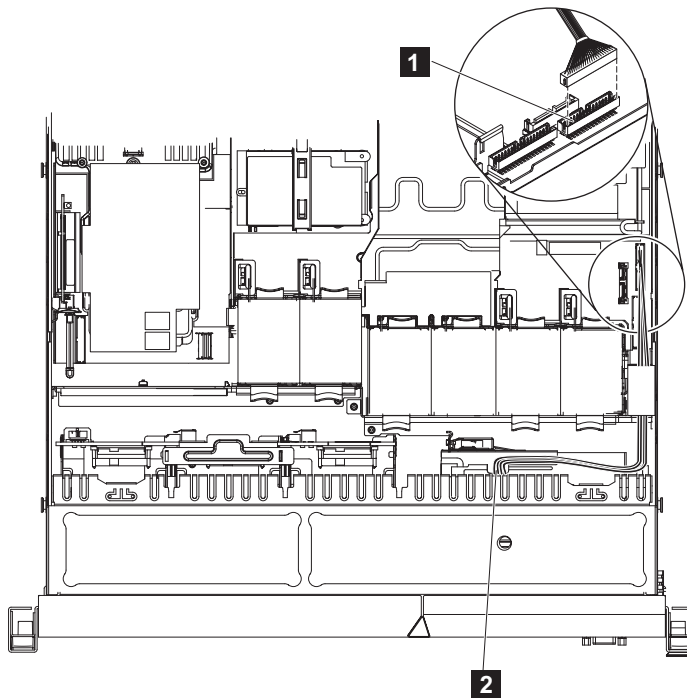

Figure 235. Connecting the SAN Volume Controller 2145-CG8 or 2145-CF8 operator-information panel cable
2. Thread the new cable from the operator-information panel to the connector above the Video/USB cable connector on the right side of the node, as shown in Figure 235.
3. Connect the cable to the connector above the Video/USB cable connector on the right side of the node, as shown in Figure 235.